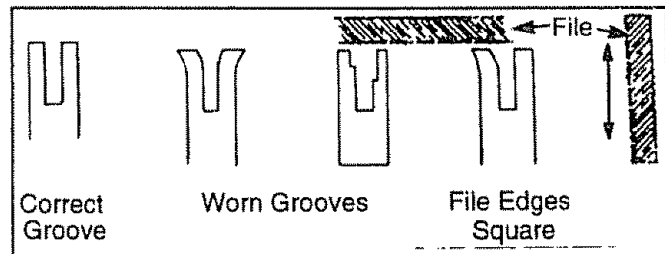

Figure 39
- Burring of bar rails is a normal process of guide bar rail wear. Remove these burrs by filing guide bar rail side edges square with a flat file. Figure 39.
- Restore square edges to an uneven rail top by filing with a flat file. Figure 39.